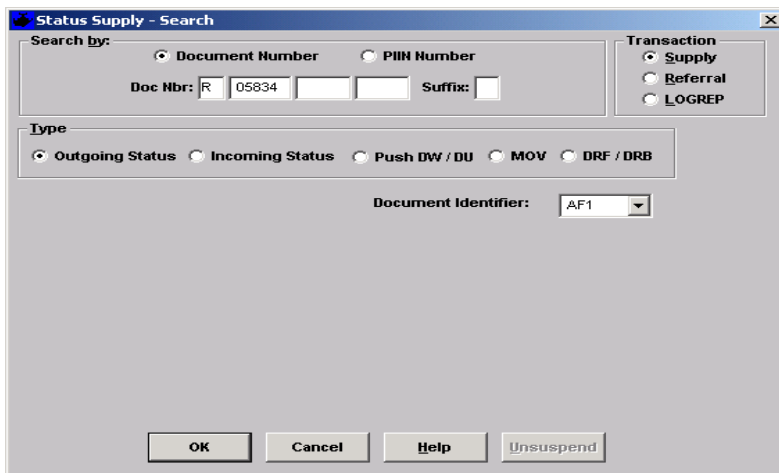

Figure 6.9
- 6.3.1 With *Supply*, *Referral*, or *LOGREP* selected on the *Status Supply - Search* window (Figure 6.9), the user is allowed to initiate an *Outgoing Status* request, post an *Incoming Status* record, post a *Push* transaction, post an incoming *MOV (Material Obligation Validation)* request/response, or post a *Delinquent Material Receipt Acknowledgment Follow-up/Reply*. It also is used to select a *PIIN* to process status against.
6.3.2.1 Depending on **Type** and **Document Identifier** selected on the **Status Supply - Search** window (*Figure 6.9*), modify available fields as required.
- 6.3.2.4 To submit, select **Apply**  on the **Status Supply** window (*Figure 6.10*). The **Status Supply - Search** window (*Figure 6.9*) returns. The supply status is now queued for release using **Release Status** (see paragraph 6.5).